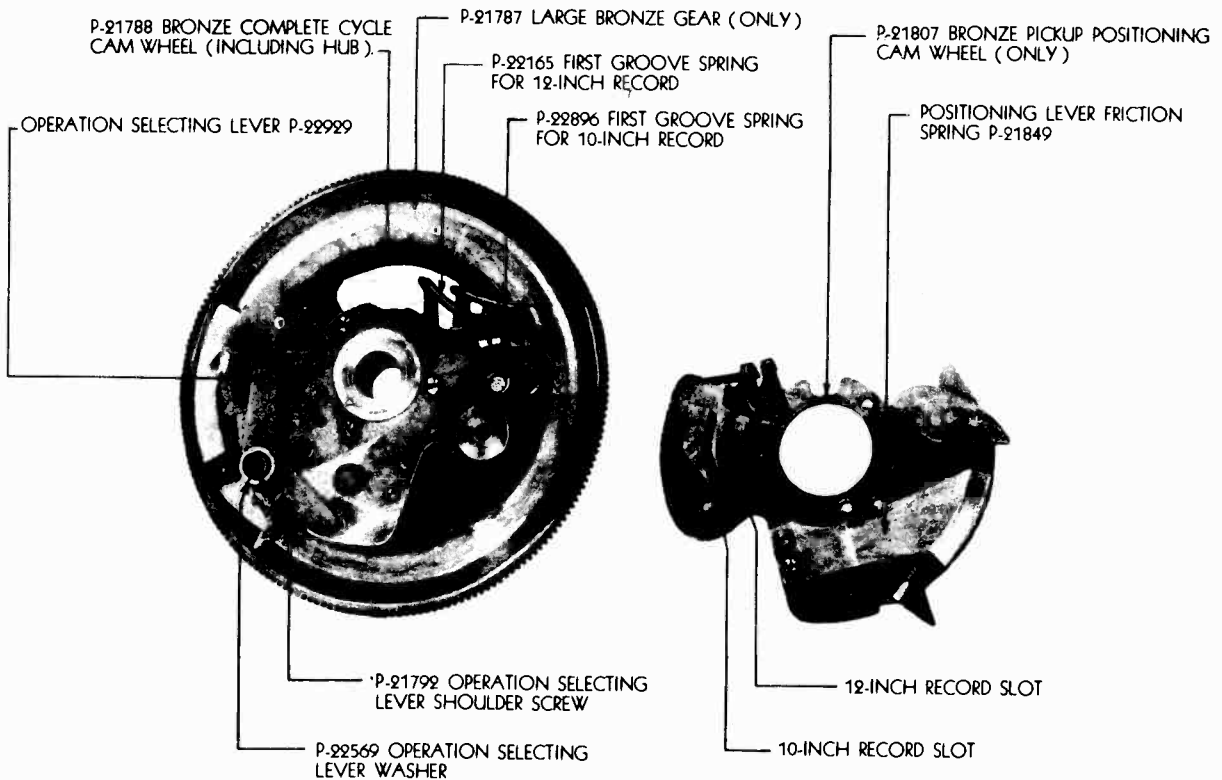

Fig. 26 - Cam Wheel Assembly and Details.
(b) Tension too light on "First Groove" springs. See Fig. 26.
- Increase tension separately for 10-inch and 12-inch records by turning adjusting screws Fig. 26 in clockwise direction (looking at slotted end of screws) so that needle is positively forced over surface of record and just enters first groove in record. Have turntable rotating when adjustment is tested. Too much tension will cause needle to jump over several grooves.
First Groove Springs, Fig. 26, tension too strong.
If at any time the large cam gear, Fig. 26, is removed, it is necessary that it be replaced properly. Proceed as follows:
Second, mesh the teeth of the large cam gear, Fig. 26, with the teeth of the clutch disc, so that the arm "B" of the complete cycle lever fits into notch "A" of ring cam as shown in Fig. 12.
Third, check accuracy of above operations by inserting the red colored Shipping Pin through the hole "U" Fig. 22 provided for this pin in the chassis frame. If done correctly, the end of this pin will pass freely through hole "U" Fig. 26, in the large cam wheel, and the triangular stud "A", Fig. 12, will remain in the notch in the edge of clutch disc.